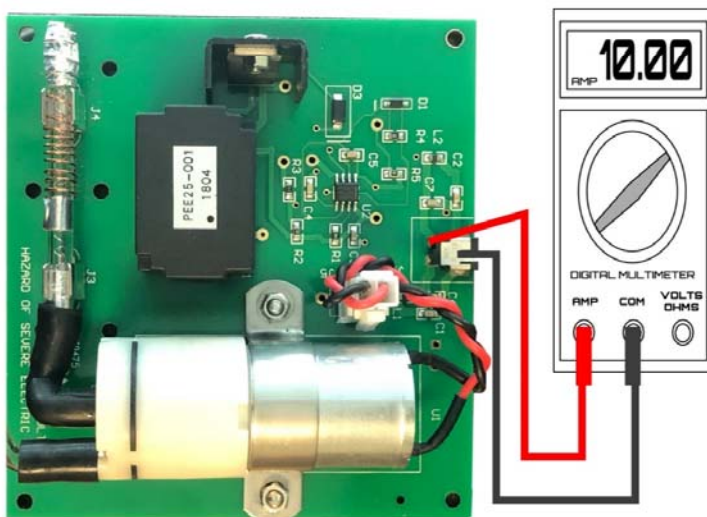

Figure 5 – O3 board test
2. With the unit programmed to turn O3 ON, measure the 12V supply voltage to the O3 circuit as shown in figure 5. The measured voltage should be between 11.5V – 12.5V